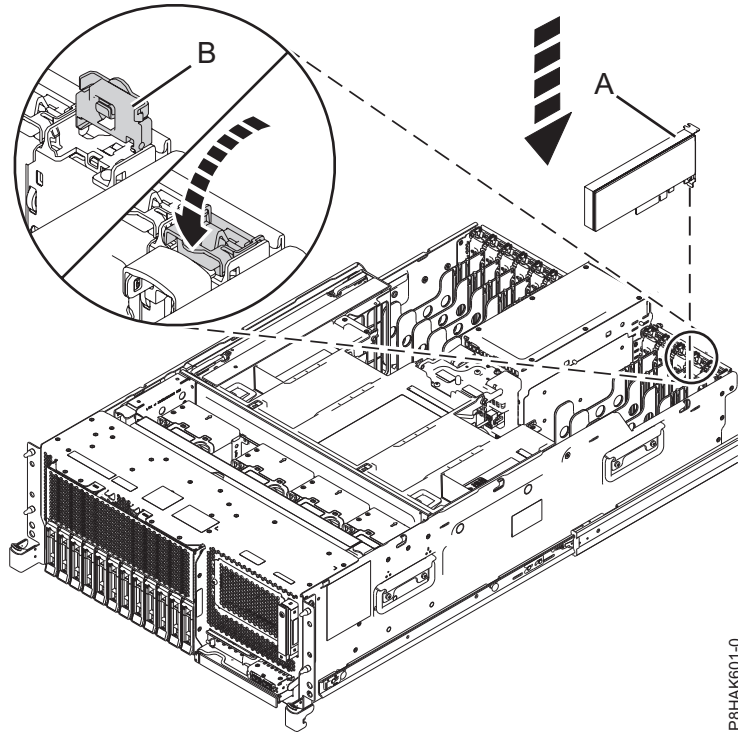
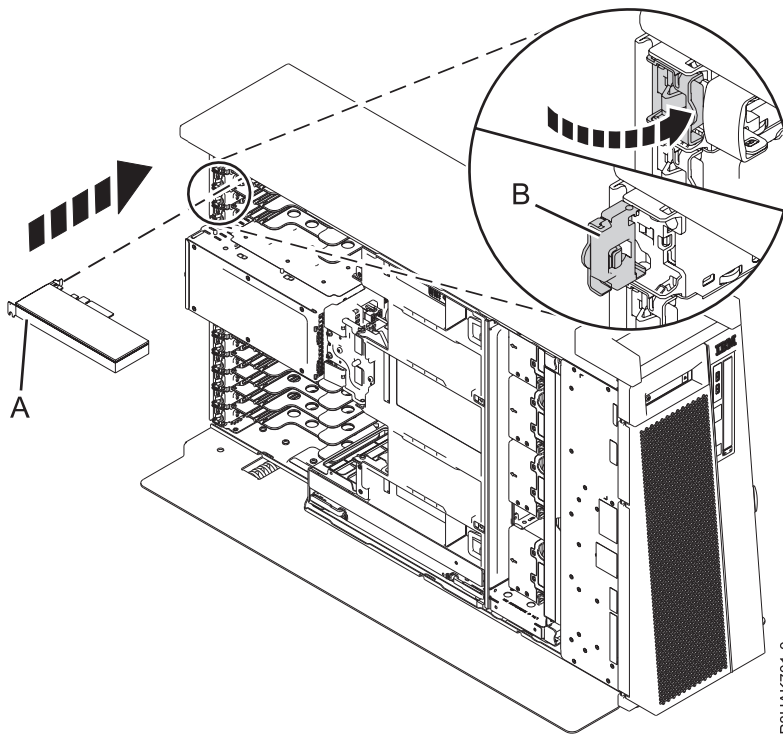

Figure 21. Installing or replacing a PCIe adapter in a rack-mounted system
Figure 22. Installing or replacing a PCIe adapter in a stand-alone 8286-41A system
6. If the adapter latch (**B**) at the target slot is not already in the open position, pull the latch into the open position by rotating the latch outwards from its clip on the back of the system, as shown in Figure 21 on page 23 and Figure 22 on page 23.
7. Carefully grasp the adapter by its top edge or tailstock, and align the adapter with the slot and its connector on the system backplane (**A**), as shown in Figure 21 on page 23 and Figure 22 on page 23.
9. To lock the adapter in its slot, rotate the adapter latch (**B**) in the direction that is shown in Figure 21 on page 23 and Figure 22 on page 23.